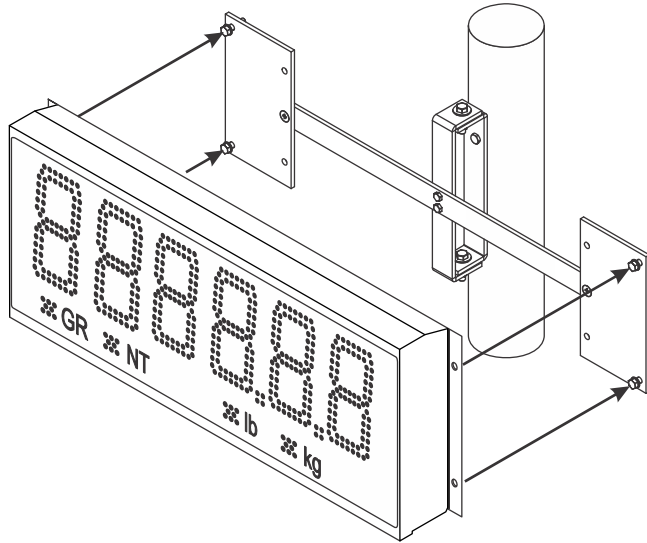

Figure 3.6 Pole mounting bracket
3. Fasten the XR display to the pole mounting bracket as outlined in the mounting instructions (See Figure 3.6).